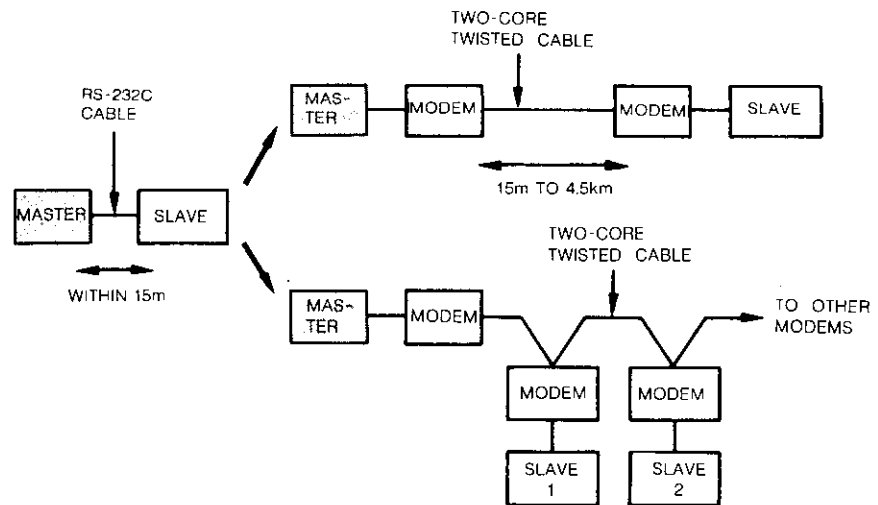

Fig. 2.3
- (2) No modem is necessary when only one slave unit is connected and is not more than 15 meters from the master unit. Modems become necessary when more than one slave unit is connected or when one is more than 15 meters from the master unit, Fig. 2.3.